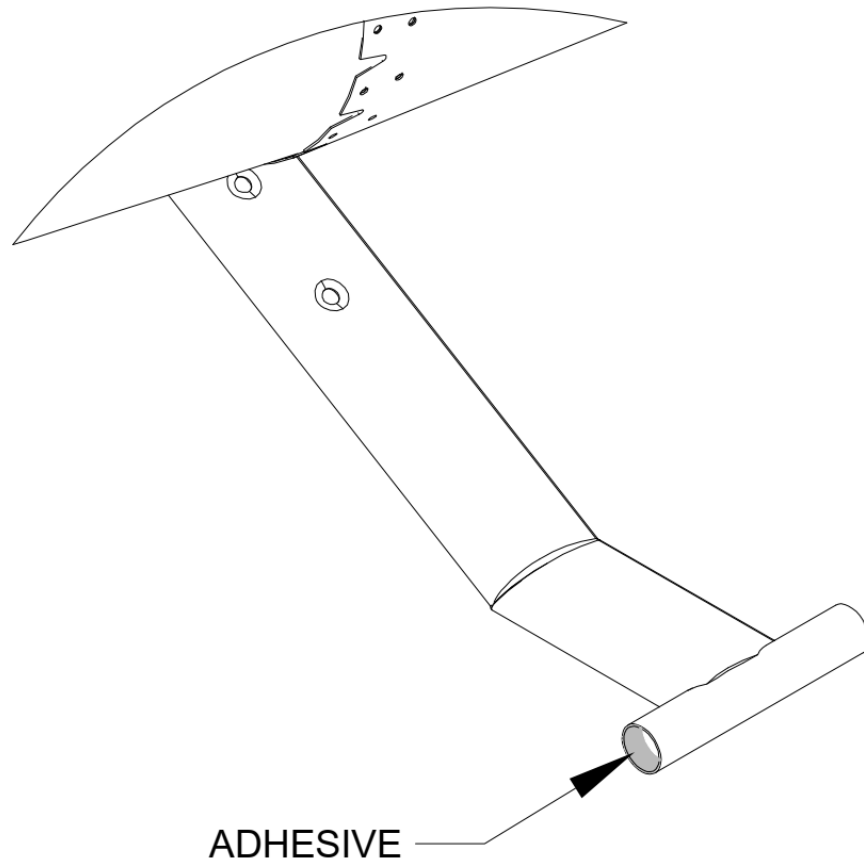

FIGURE 2: ADHESIVE LOCATION
Step 3: Apply a thin smear of fuel tank sealant or adhesive around the inside of the steps as shown in Figure 2.